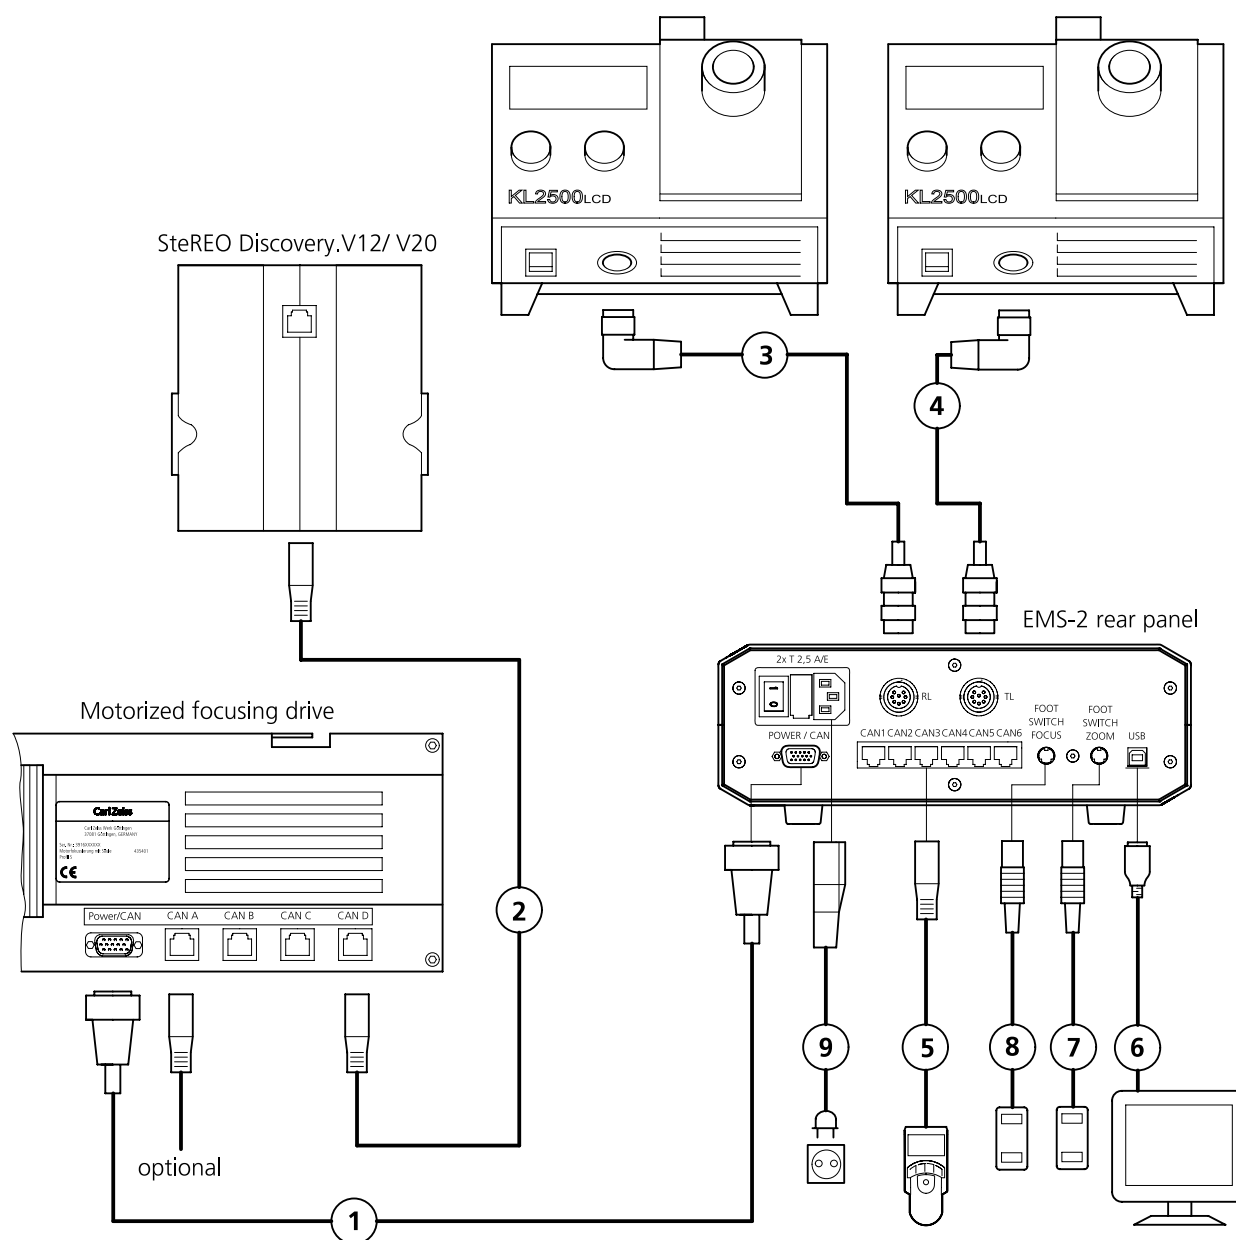

Fig. 35 Connecting the SteREO microscope
- Connect the Power/CAN bus cable (Fig. 35/1) to the rear side of the focusing drive **Power-CAN** and secure it in place with two screws.
- Zoom drive of microscope body (Fig. 35/2)
- Other moving CAN bus cables (Fig. 35/optional), such as that for objective nosepiece.
- Connect the following devices to the rear panel of the EMS-2 Electronic Module (Fig. 35):
- Power/CAN bus cable (Fig. 35/1), which should be secured with two screw
- SYCOP (Fig. 35/5) to a freely selectable CAN bus connector **CAN 1** to **CAN 5**
- Control cable of cold-light source for incident light to connector **RL** (Fig. 35/3)
- Control cable of the cold-light source for transmitted light to connector **TL** (Fig. 35/4)
- Foot pedal for focus control (Fig. 35/8), if used
- Foot pedal for zoom control (Fig. 35/7), if used
- Power cable (Fig. 35/9) to be connected to EMS-2 and power outlet.
A PC may be connected to the USB port (Fig. 35/6) of the EMS-2 Electronic Module. For more information, refer to the corresponding software description.
- Connect the control cable for incident light coming from connector **RL** of the Electronic Module (Fig. 35/3) to the KL 2500 LCD cold-light source.
- Connect the control cable for transmitted light coming from connector **TL** on the Electronic Module (Fig. 35/4) to the second KL 2500 LCD cold-light source.